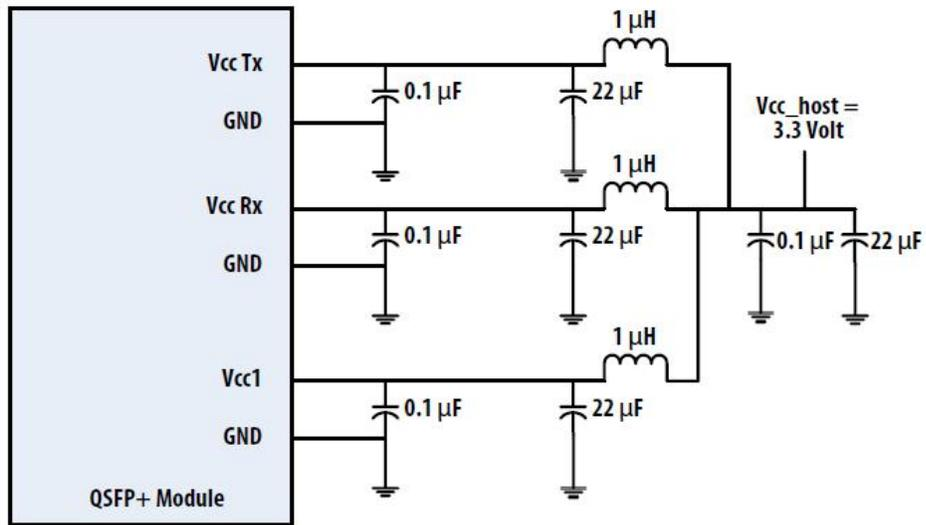

Figure 4. Recommended Power Supply Filter
2. VccRx, Vcc1 and VccTx are the receiver and transmitter power suppliers and shall be applied concurrently. Recommended host board power supply filtering is shown in Figure 4 below. Vcc Rx, Vcc1 and Vcc Tx may be internally connected within the QSFP+ transceiver module in any combination. The connector pins are